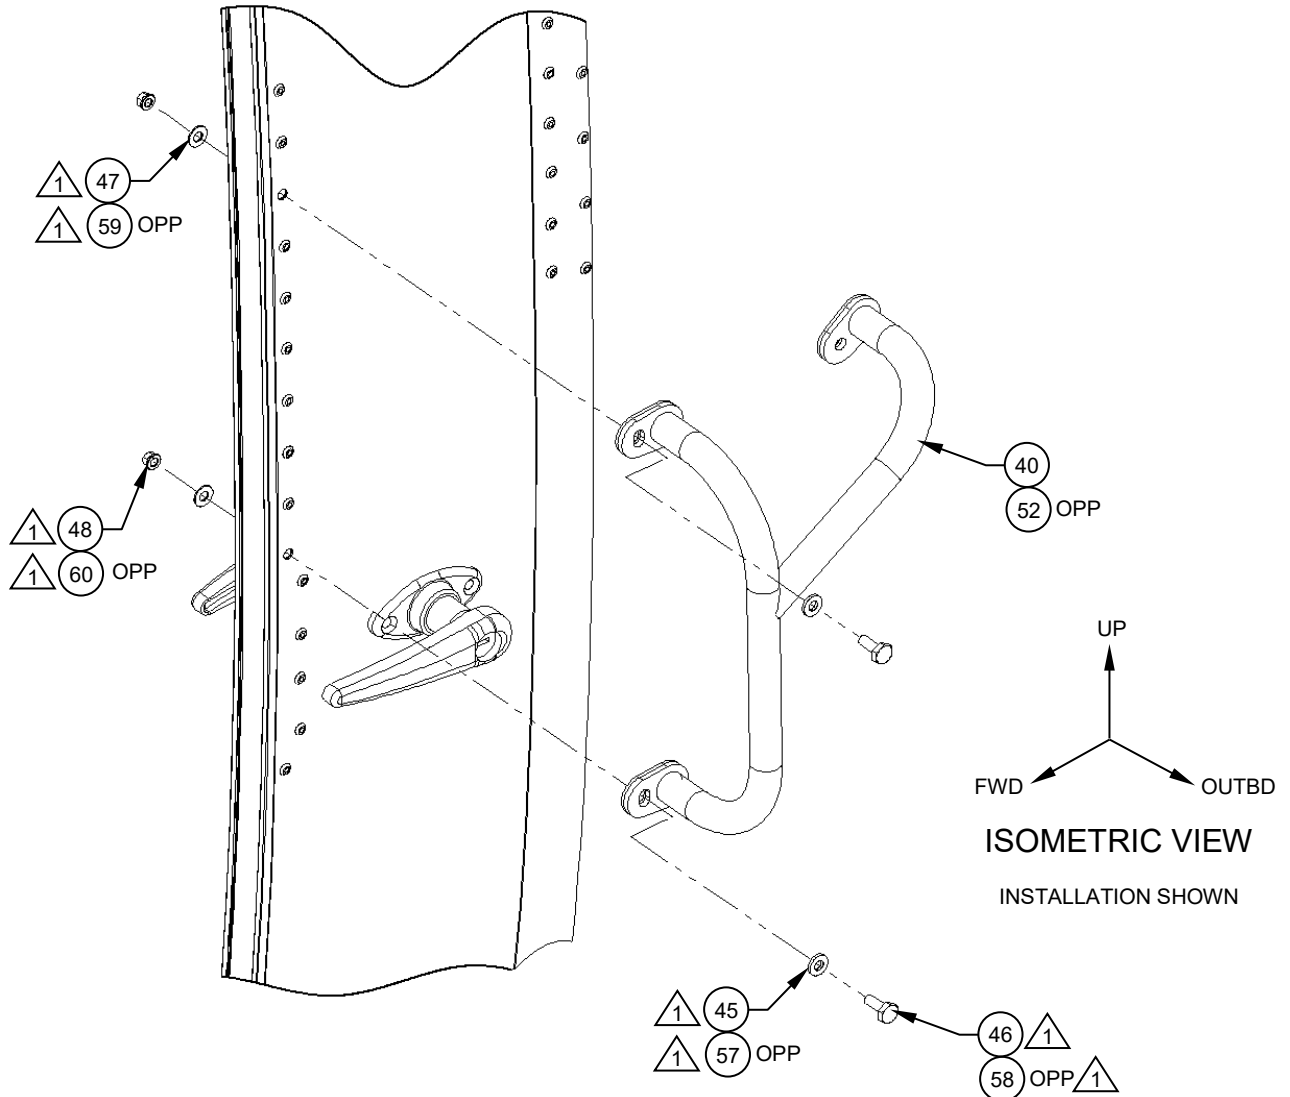

Figure 16
3. Temporarily install the Handle, Assy, LHS/RHS AFT (Item 40, 52 OPP) using the supplied hardware in the holes that were drilled out. Use this to scribe a center mark for the third foot. Reference Figure 16.